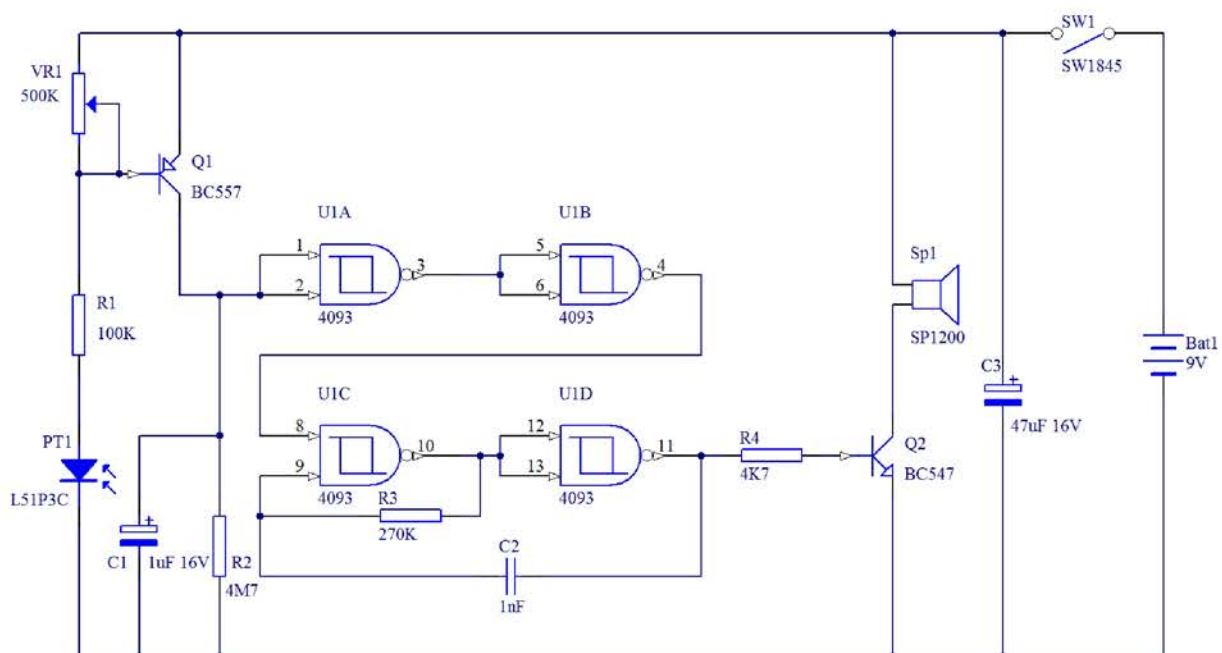

Figure 3. Schematic Diagram
- What type of component is R2? The value is written in as 4M7. (See Fig 3 Page 7.) Also find it on the table on page 8.
The circuit diagram is a schematic drawing. The components are drawn as schematic symbols. There are many schematic symbols. Investigate this area of knowledge. Draw and name five components in the area below, include a drawing of the component and the symbol. Include components in KI0208 circuit diagram (Figure 3 on page 7).
The devices are opto sensors; their electrical characteristics change in the presence of light. The light sensed may or may not be in the visible spectrum. In dark conditions their resistance is high: typically millions of ohms. In light conditions, the resistance falls to something like 30 ohms in bright sunlight. Many practical uses of this property are possible. The circuit diagram shows that the circuit consists of three main stages. see figure 3
The 4093 CMOS IC is a quad (there are four of them), 2 input NAND SCHMIDT TRIGGER IC and the four gates shown on the schematic diagram (Figure 3) are all in the one IC. It is wired up to oscillate when the input to it goes high, that is the BC557 transistor turns on after light is detected by the L51P3C. The oscillating output from the 4093 turns the BC547 on and off creating a square wave signal which drives the speaker. After the alarm has been operating and it is put back in to dark conditions again, the alarm will continue to sound for about 3 seconds. This is due to the 1uF capacitor keeping the input to the 4093 HIGH. In digital logic a HIGH is also referred to as a "1" and a LOW as a "0". To increase the delay increase the value of this component.